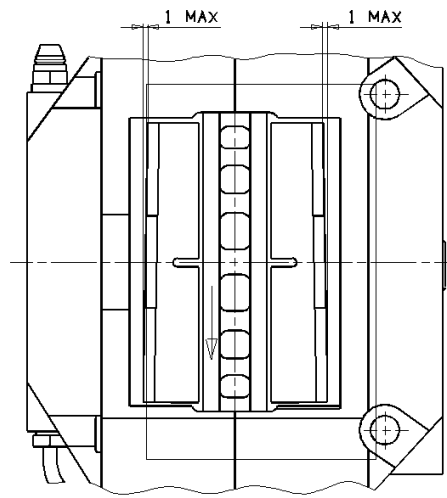

Fig. 9
- a. Pad tangential taper wear difference must not exceed 1 mm MAX, bearing in mind that the direction of wears of the same caliper must be according to what shown on the Fig.9.